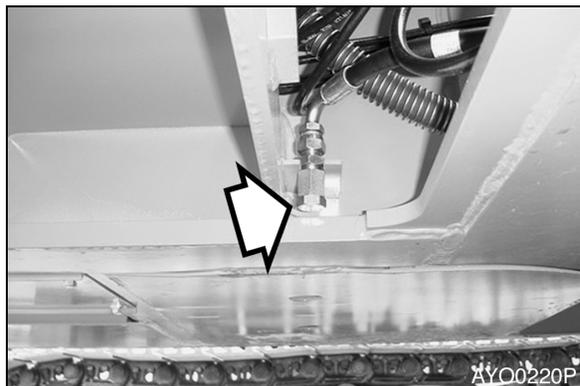

Figure 67
2. Open drain plug (Figure 67).